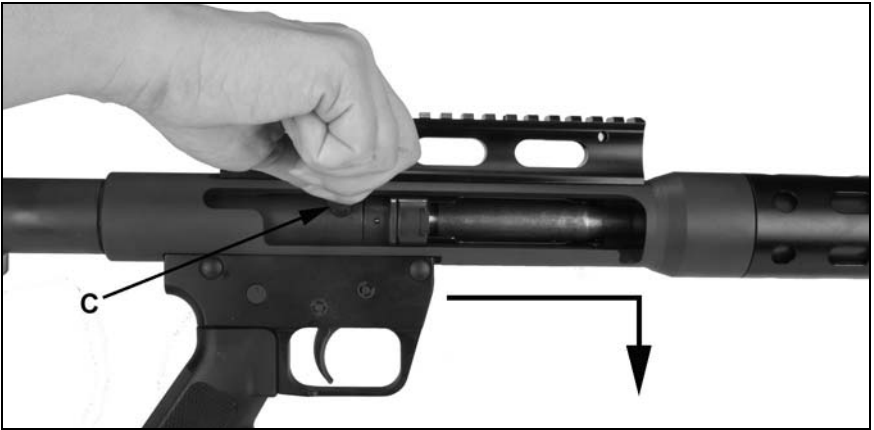

Figure 10
6. To load a round into the chamber, push the bolt handle (C) fully forward and down. A round from the magazine is now loaded into the chamber. See figures 10 and 11.